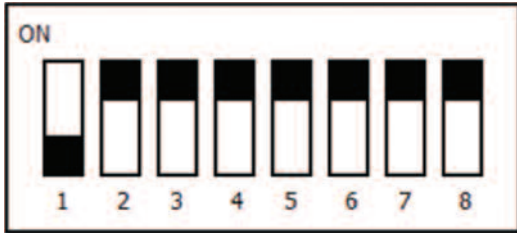
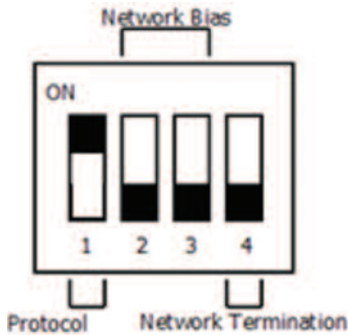

Figure 5
Figure 6
8. Set DIP Switches SW1 and SW2 as desired. Refer to Figure 5, Figure 6, and Appendix I.
Use DIP Switch SW1 (see Figure 5) to configure the RS-485 address of the device. A valid address depends on the protocol selected. Valid BACnet addresses range from 1 to 127. Valid MODBUS® communication protocol addresses range from 1 to 247. By default, the device is shipped with MODBUS® communication protocol selected and the address set to 127, as shown in Figure 5. A valid and unused address should be set before connecting to an existing network. See Appendix I to configure the required address using DIP Switch SW1. The device will not function properly if an invalid address is set. During the power up sequence, the LCD (if present) will display the RS-485 address as the primary value and either "BAC" to indicate BACnet or "MOD" to indicate MODBUS® communication protocol as the primary text. If the RS-485 address is invalid, the invalid address is shown as the primary value with "ERR" as the primary text, and the red LED will periodically blink once.
Use DIP Switch SW2 (see Figure 6) to configure other hardware and software options. Table 1 shows available options. Table 2 shows supported configurations for either BACnet or MODBUS® communication protocol.